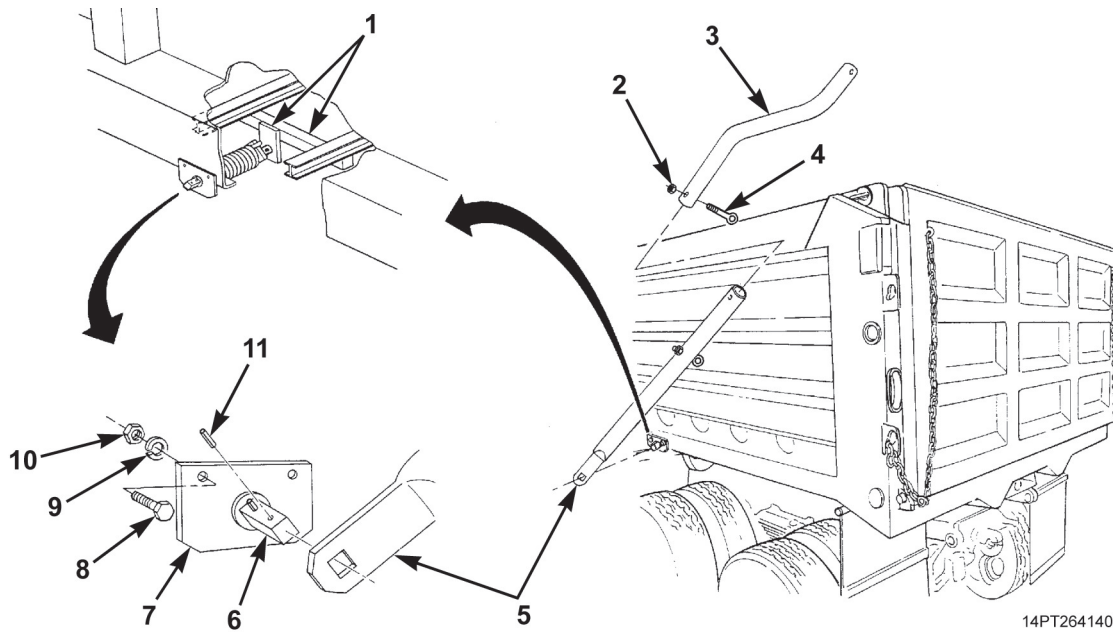

Figure 1. Roll-Up Bar Spring Removal.
1. Remove rubber strap from connecting arm (Figure 1, Item 3) and swing arm (Figure 1, Item 5).
2. Remove machine key (Figure 1, Item 11) from shaft (Figure 1, Item 6) on spring assembly (Figure 1, Item 7). Remove swing arm (Figure 1, Item 5) from shaft. Discard machine key.
3. Remove locknut (Figure 1, Item 2) and eyebolt (Figure 1, Item 4) and separate swing arm (Figure 1, Item 5) and connecting arm (Figure 1, Item 3). Discard locknut.
4. Remove two nuts (Figure 1, Item 10), lockwashers (Figure 1, Item 9), and screws (Figure 1, Item 8) from spring assembly (Figure 1, Item 7). Remove spring assembly from dump body and from welded shaft support bar and tube (Figure 1, Item 1). Discard lockwashers.